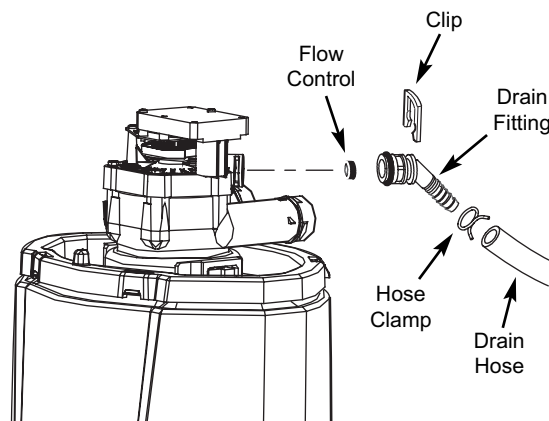

FIG. 23
1. Remove the clip holding the drain fitting into the valve (See Figure 23).